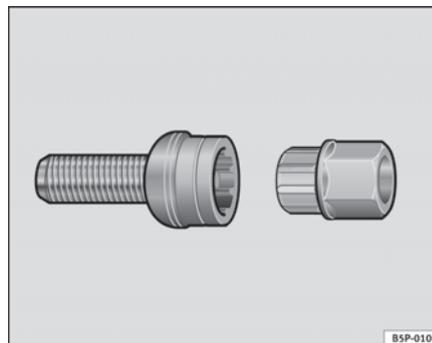

Fig. 137 Anti-theft wheel bolt
- Insert the adaptor onto the wheel bolt and push it on as far as it will go ⇒ page 202, fig. 137.